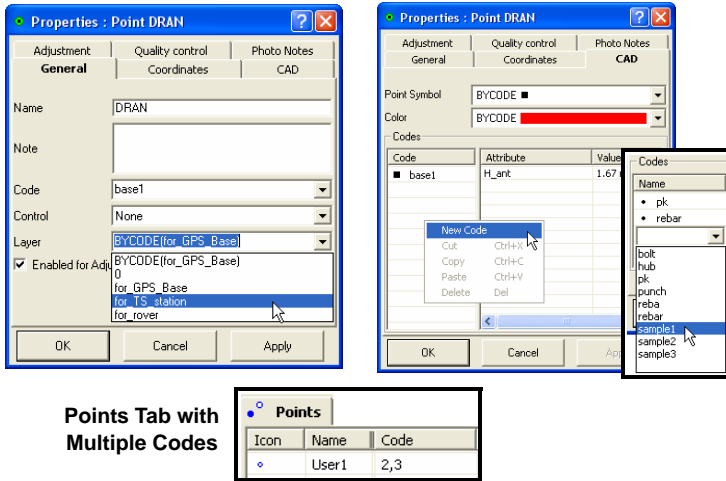

Figure 5-63. Add Code to Point
2. Using the *General* tab, select a code and a layer (Figure 5-63). The plotting style for this code will be taken from the layer parameters.
4. To add a code to the point, right-click in the left panel and click **New Code**. Select the code from the drop-down list and click outside the cell or press **Enter** (Figure 5-63 on page 5-48). More than one code can be added to the point; codes will display in the *Points* tab.